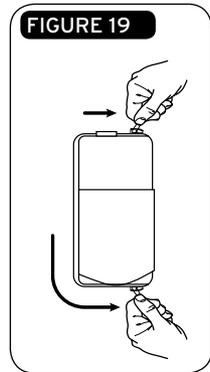

FIGURE 19
2. Close the zippers by pulling each zipper pull to the zipper tape ends at the top and bottom of the LP (Figure 19), and fasten the tab to keep the zippers closed.